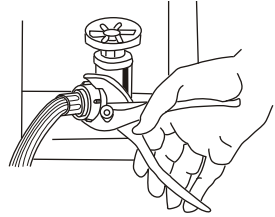

Figure 1
1. Attach the water inlet hoses to the water faucet. Using pliers, tighten the coupling. (As figure 1)